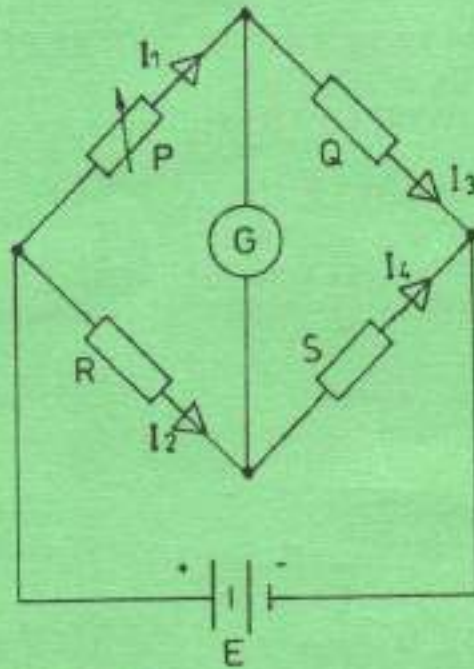

Fig.1
- (ii) Figure 1 shows a balanced wheatstone bridge circuit. Derive the expression for the unknown resistor R. (7 marks)